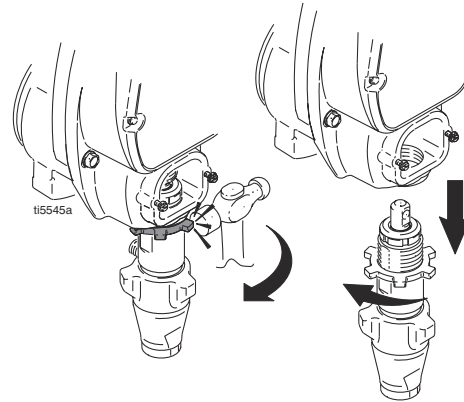

FIG. 16
6. FIG. 16. Loosen jam nut by hitting firmly with a 20 oz hammer. Unscrew pump.